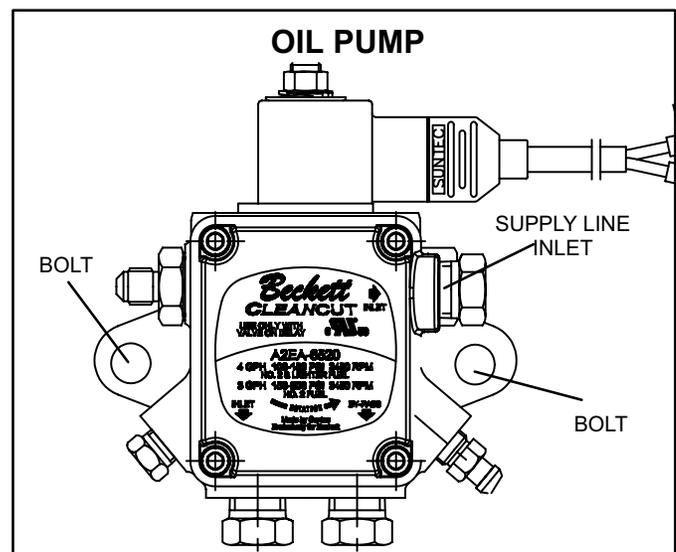

FIGURE 23
- 3 - Loosen two bolts on sides of pump securing pump to blower housing. See figure 23.
- 1- Turn off power. Disconnect supply line at pump and oil line at gun assembly as shown in figure 23.